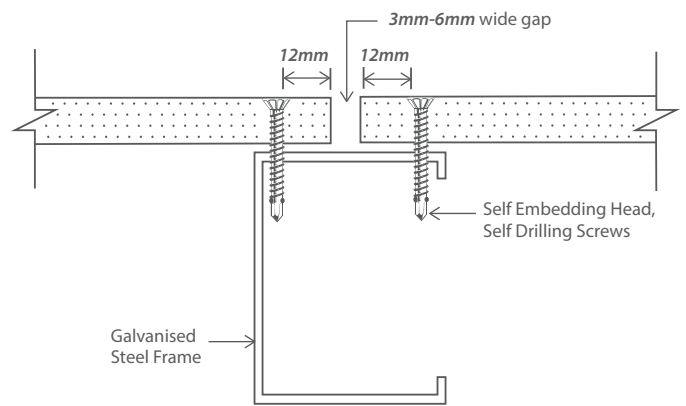

Figure 2.5: Expressed Joint
2. An expressed joint may be formed by providing 3 to 6mm gap between PRIMAflex™ sheets. See Figure 2.5.